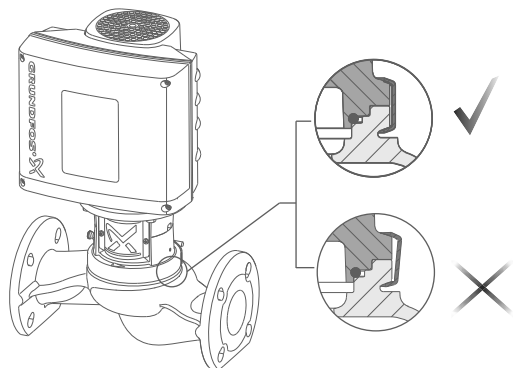

Fig. 12 Positioning of clamp ring
- Position the clamp correctly in the flange recess of both the pump head and the pump housing. See fig. 12.